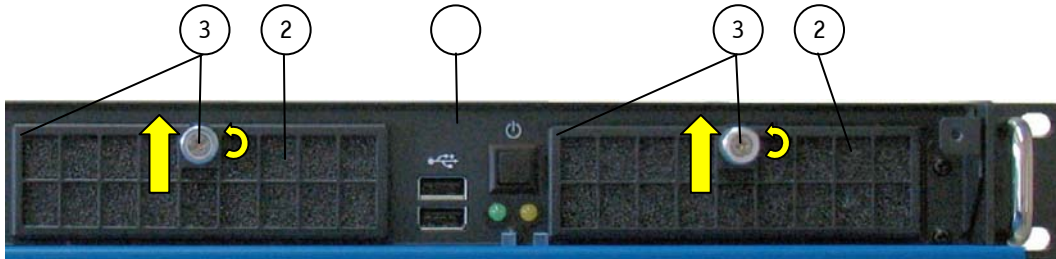

Fig. 23: Detail of the front side - Location of the filter mat
Legend for Fig. 23, Fig. 24 and Fig. 26:
2. Loosen the knurled screw (Fig. 23, pos. 3) that secure the filter mat holder with the air filter mat to the chassis.
3. Pull out the filter mat holder (Fig. 23, pos. 3) into the marked direction.
4. Remove the dirty filter mat (Fig. 23, pos. 2 or Fig. 25).